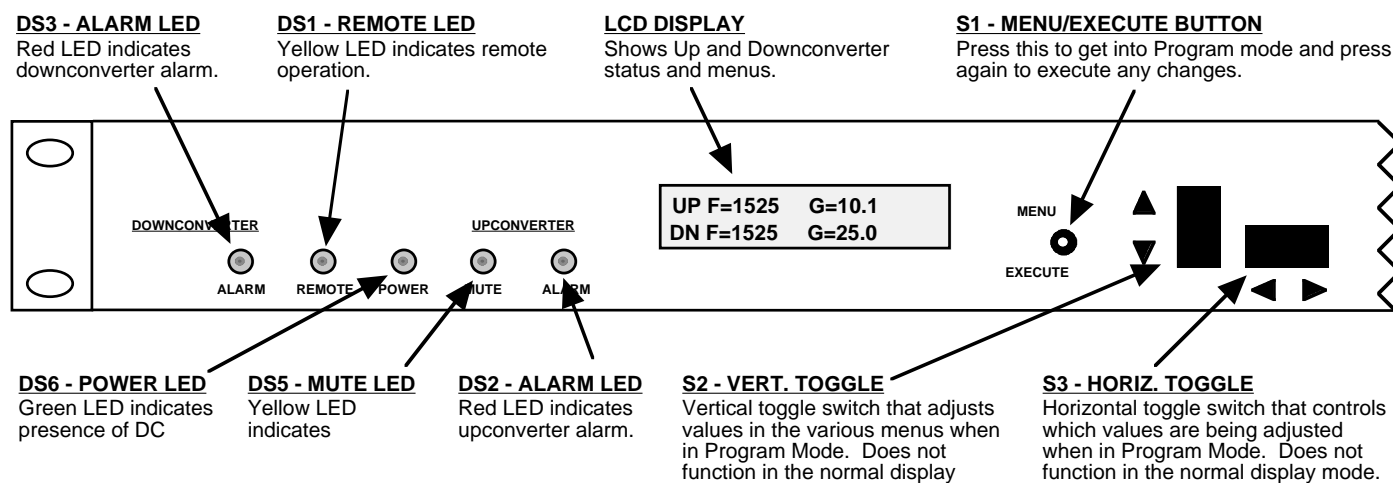

Figure 2.2 Model 2017 Front Panel Controls and Indicators
2.3 Front Panel Controls and Indicators - Figure 2.2 shows the front panel controls and indicators.
- 8.) Be sure DS6 (green, DC Power) is on and DS2 (red, Alarm) is off (Figure 2.2).
- 7.) Be sure DS6 (green, DC Power) is on and DS2 (red, Alarm) is off (Figure 2.2).
Alarm indications appear on the LEDs (see figure 2.2).